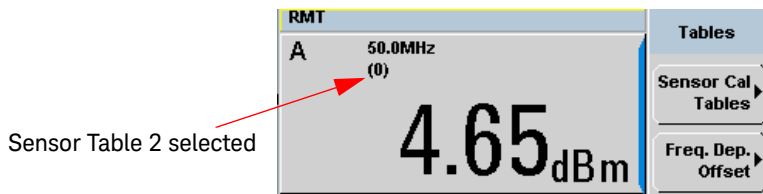

Figure 8-9 Frequency dependent offset indicator
- 4 Press **Done** again to display the measurement screen. Figure 8-9 shows which offset table is selected.